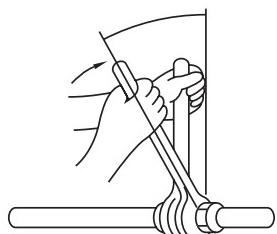

Fig. 5-8
- ④ Smooth all around
- ⑤ Inside is shining without any scratches
- ⑥ Even length all around
- ⑦ Too much
- ⑧ Scratch on flared plane
- ⑨ Cracked
- ⑩ Uneven
- ⑪ Bad examples
- ⑫ Tilted
- Apply a thin coat of refrigeration oil on the seat surface of pipe. (Fig. 5-8)